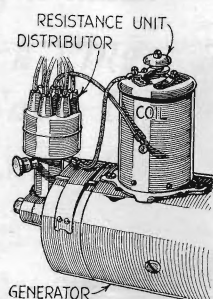

Fig. 2. How to start a car by a short circuit when a battery goes dead
**O**N PRACTICALLY all cars made today, the ignition system operates on the closed circuit principle. This means that the contact points that are used to break the current in the primary circuit of the spark coil are closed except during a very brief interval following the break which causes the spark. And as the primary circuit of the standard type of spark coil has a relatively low resistance, it is necessary to put a special resistance coil in circuit with it to limit the flow of current. This special resistance coil is ordinarily located on the spark coil as shown in Fig. 2.